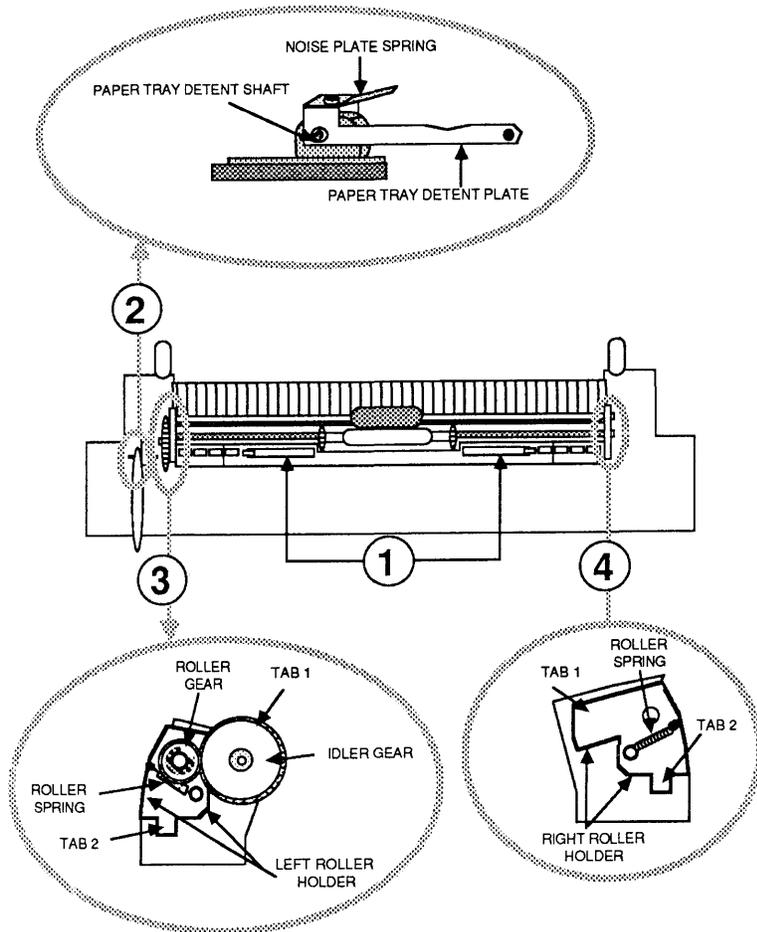

FIGURE 8
2. Position the paper tray as shown in Figure 8, the main drawing. Pry off the paper tray locks (Figure 8, #1). Using a small flathead screwdriver, pry off the upper paper tray (the hinges are part of the upper paper tray). The tray snaps onto the tabs. Some of the tabs may break off as you remove it.
3. Locate the paper tray detent plate on the left side (Figure 8, #2). Remove the paper tray detent shaft. Lift the paper tray detent plate off the lower paper tray. Set the parts aside for later use.
4. Gently pull the idler gear, on the left side of the tray, toward you to release tab 1. At the same time, insert a jeweler's screwdriver under tab 2, and slide the left roller holder free of the tabs (Figure 8, #3).
5. Using a jeweler's screwdriver, gently pry loose tab 1 on the right side of the tray. Pry loose tab 2 and lift the right roller holder free (Figure 8, #4).
7. Remove the roller springs (Figure 8, #3 and #4) from both sides of the assembly. The springs hold the roller shaft and the eject shaft in place.
IPL.17	Cables (Figure 8)